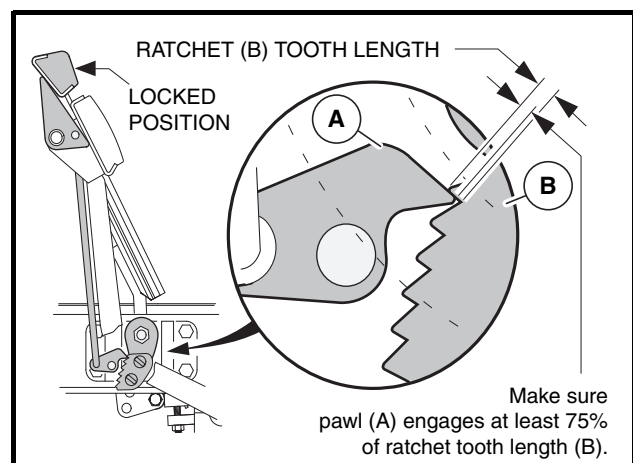

**Figure 5-13 Park Brake Ratchet/Pawl Gap Adjustment**
- 3.2. Adjust retaining nut (7) on spring support rod until there is a 0.060 inch (1.5 mm) gap between the pawl and the tips of the ratchet teeth. Use a feeler gauge to verify the gap (**Figure 5-13, Page 5-13**). The gap should be consistent through range of pawl movement. If the gap is not consistent, loosen the four bolts (6) securing the accelerator pivot rod supports and adjust the supports. If the gap becomes smaller as the park brake pedal is pressed, move the pivot rod supports slightly rearward until the gap is consistent. If the gap becomes larger as the park brake pedal is pressed, move the pivot rod supports slightly forward until gap is consistent. **See following NOTE.**